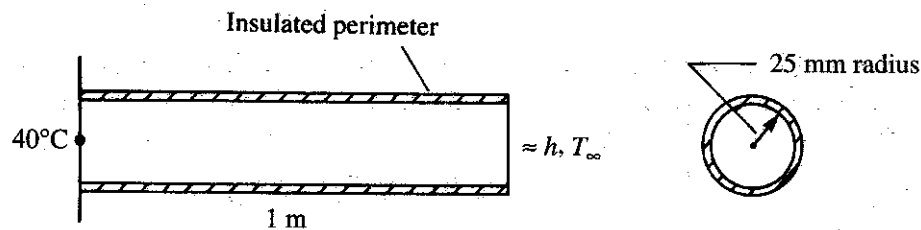

Figure 7
- Q7) Determine the temperature distribution along the length of the rod (at $L/4$, $L/2$, $3L/4$, and L) as shown in Figure 7. The rod with radius of 25 mm is insulated at the perimeter. The left end has a constant temperature of 40°C and a free stream temperature T_∞ is -10°C . Let $K_{xx} = 35 \text{ W}/(\text{m}^\circ\text{C})$ and $h = 55 \text{ W}/(\text{m}^2^\circ\text{C})$.